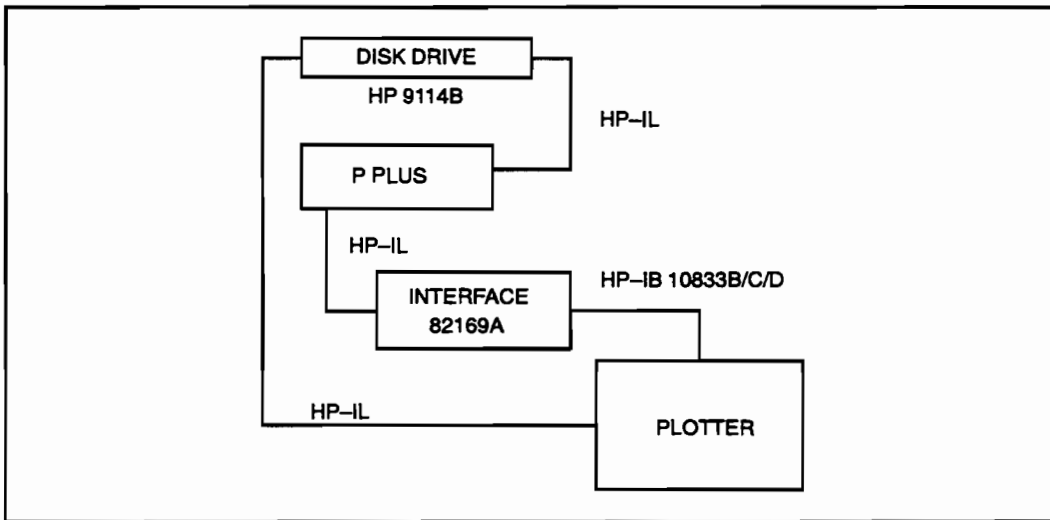

Figure 8-17. HP-IB Test
4. Connect the Portable PLUS as shown in Figure 8-17.